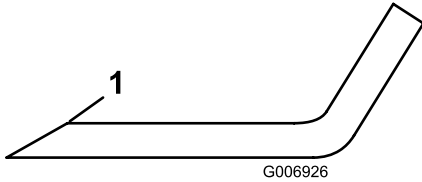

Figure 102
- Inspect the cutting edges of all blades. Sharpen the cutting edges if they are dull or nicked. Sharpen only the top of the cutting edge and maintain the original cutting angle to make sure that it is sharp (Figure 102).
- If dull or nicked, sharpen only the top cutting edge while maintaining the original cutting angle (Figure 102).